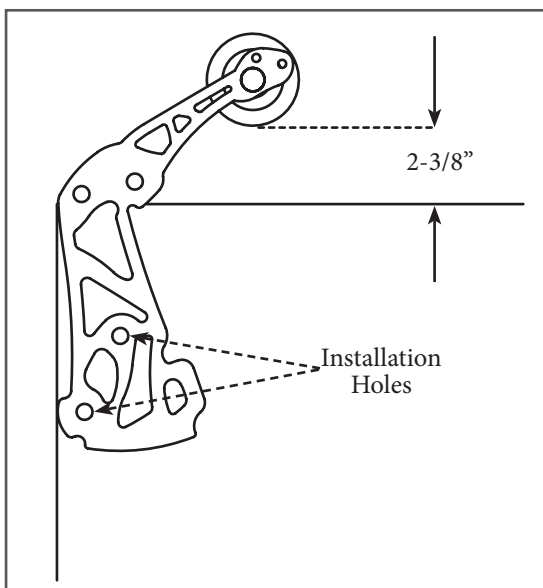

Figure 2
3. Adjust the placement of the hanger for a 2-3/8" gap between the top of the door and the bottom edge of the wheel (Figure 2).
4. Mark the center of each installation hole with a pencil. (Figure 2).